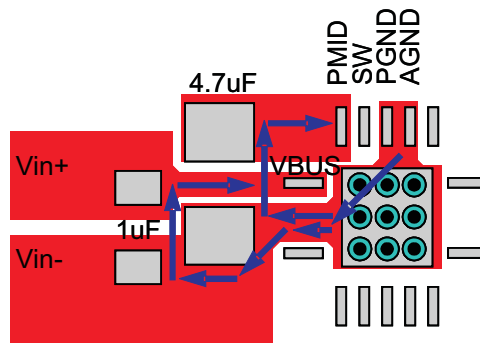

Figure 25. Input Capacitor Position and PCB Layout Example
- Place 4.7uF input capacitor as close to PMID pin and PGND pin as possible to make high frequency current loop area as small as possible. Place 1uF input capacitor as close to VBUS pin and PGND pin as possible to make high frequency current loop area as small as possible (see Figure 25).